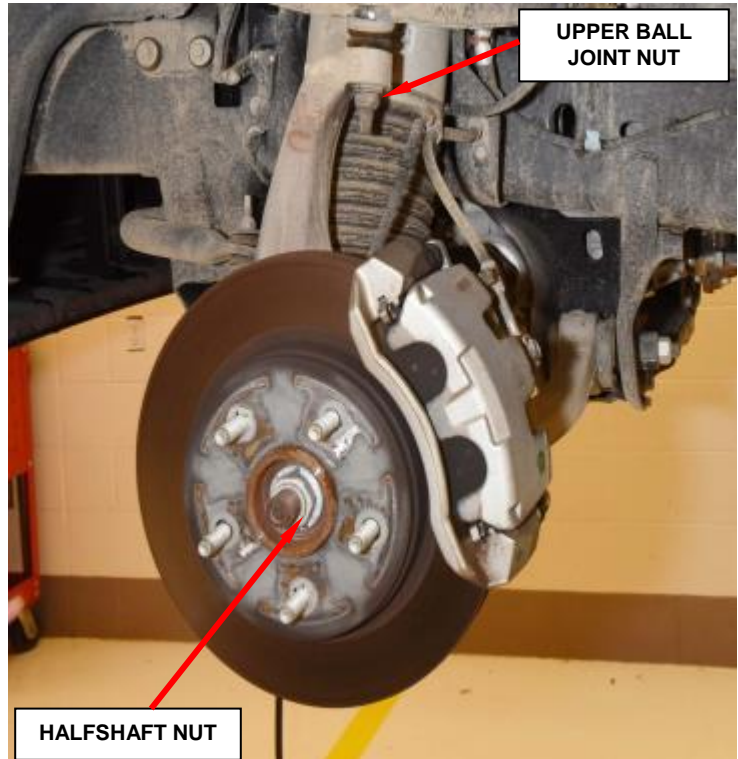

Figure 1 – Halfshaft Nut
4. Remove and **discard** the left half shaft nut from the shaft (Figure 1).
17. Install the **NEW** halfshaft nut and tighten to 185 ft. lbs. (251 N•m) (Figure 1).